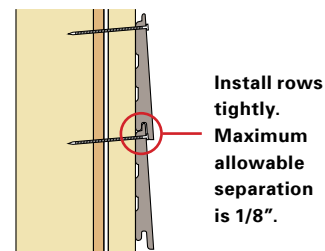

Fig. 24
- Once the starter course is in place, continue placing subsequent courses tightly together on both horizontal and end joints. When aligning the top of the boards never allow more than 1/8" separation from the preceding row. (See Figure 24)